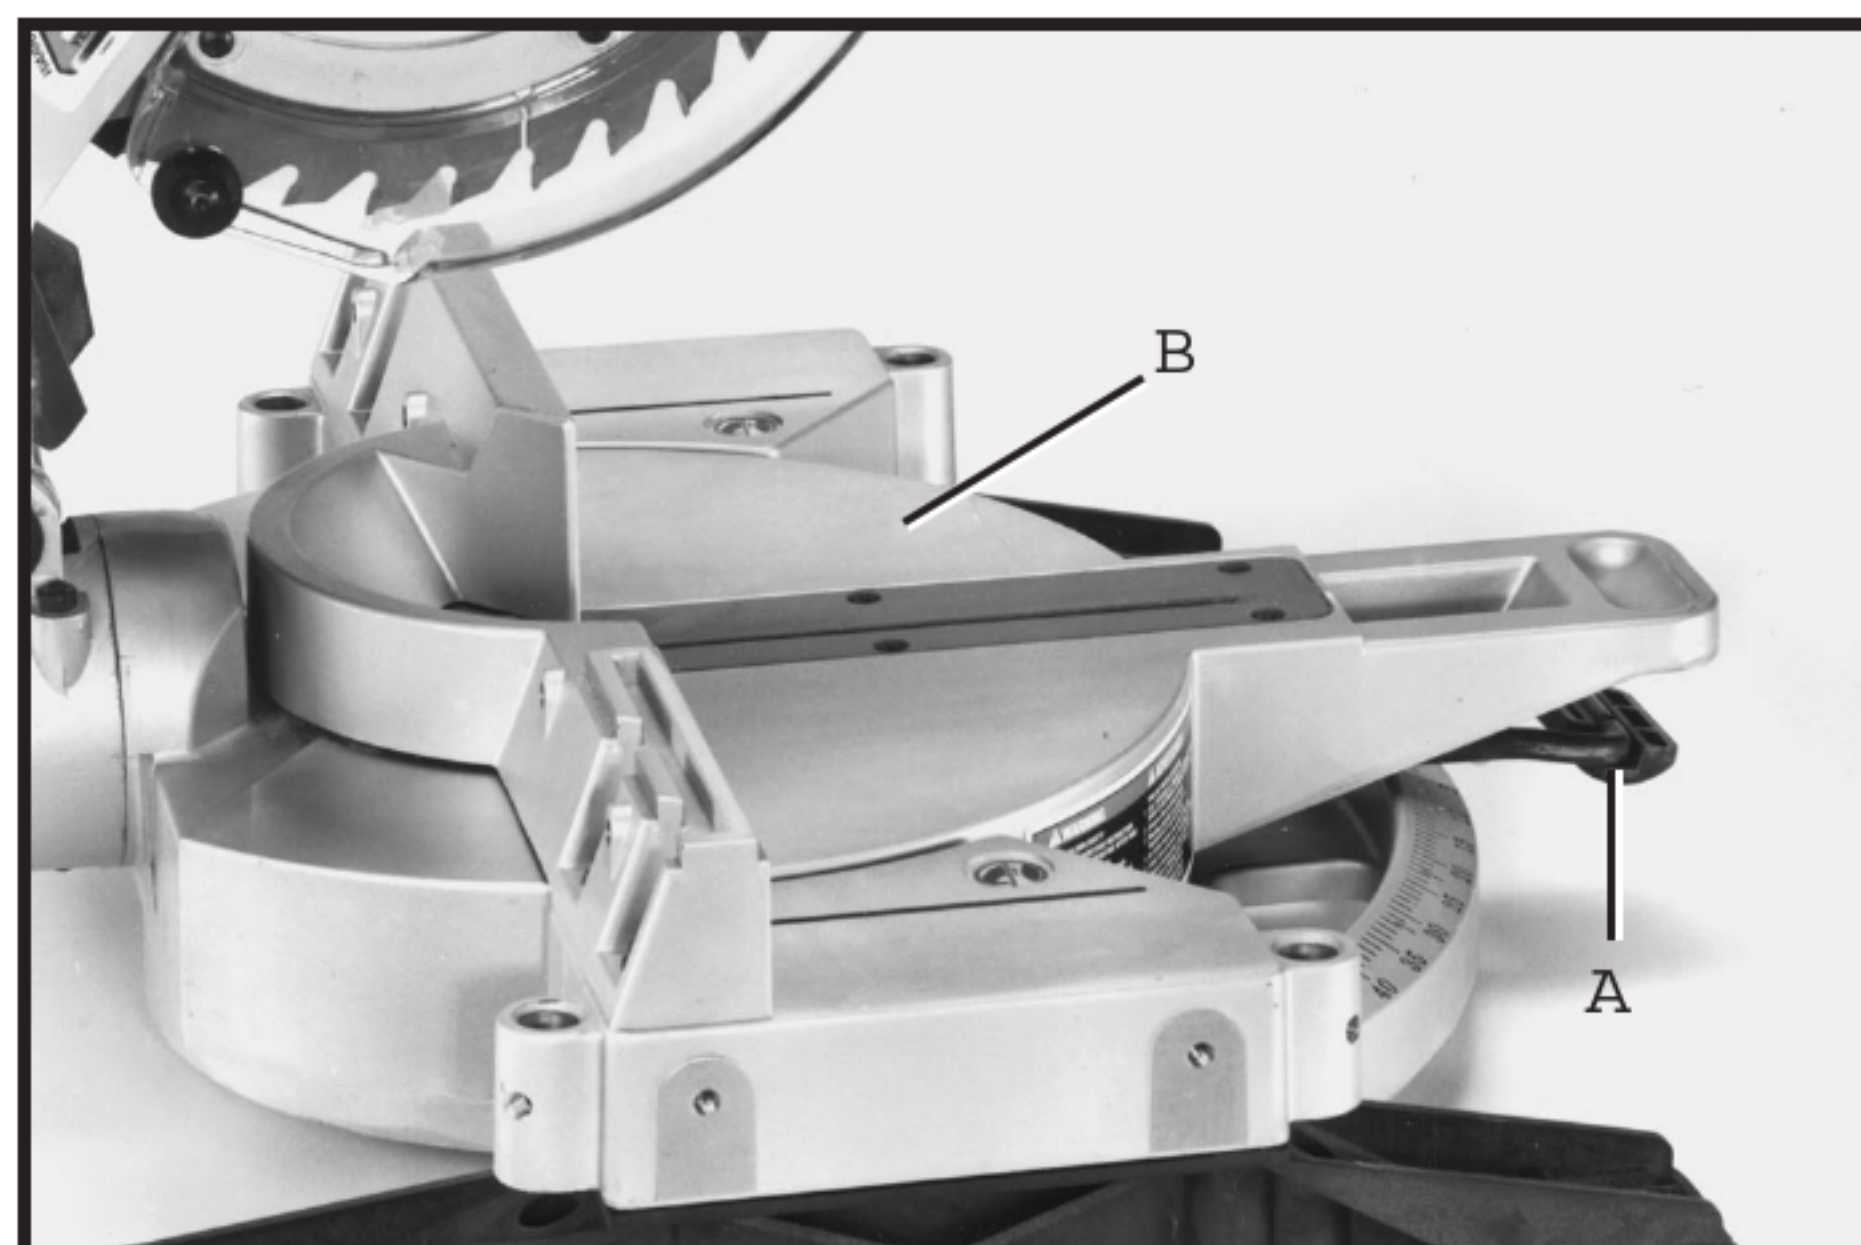

Fig. 7
2 Fig. 7, illustrates the table (B) in the 90 degree straight out-off position. NOTE: Table lock lever (A) must be depressed when rotating table. When lock lever (A) is not depressed, the table is in the locked position and cannot be moved.